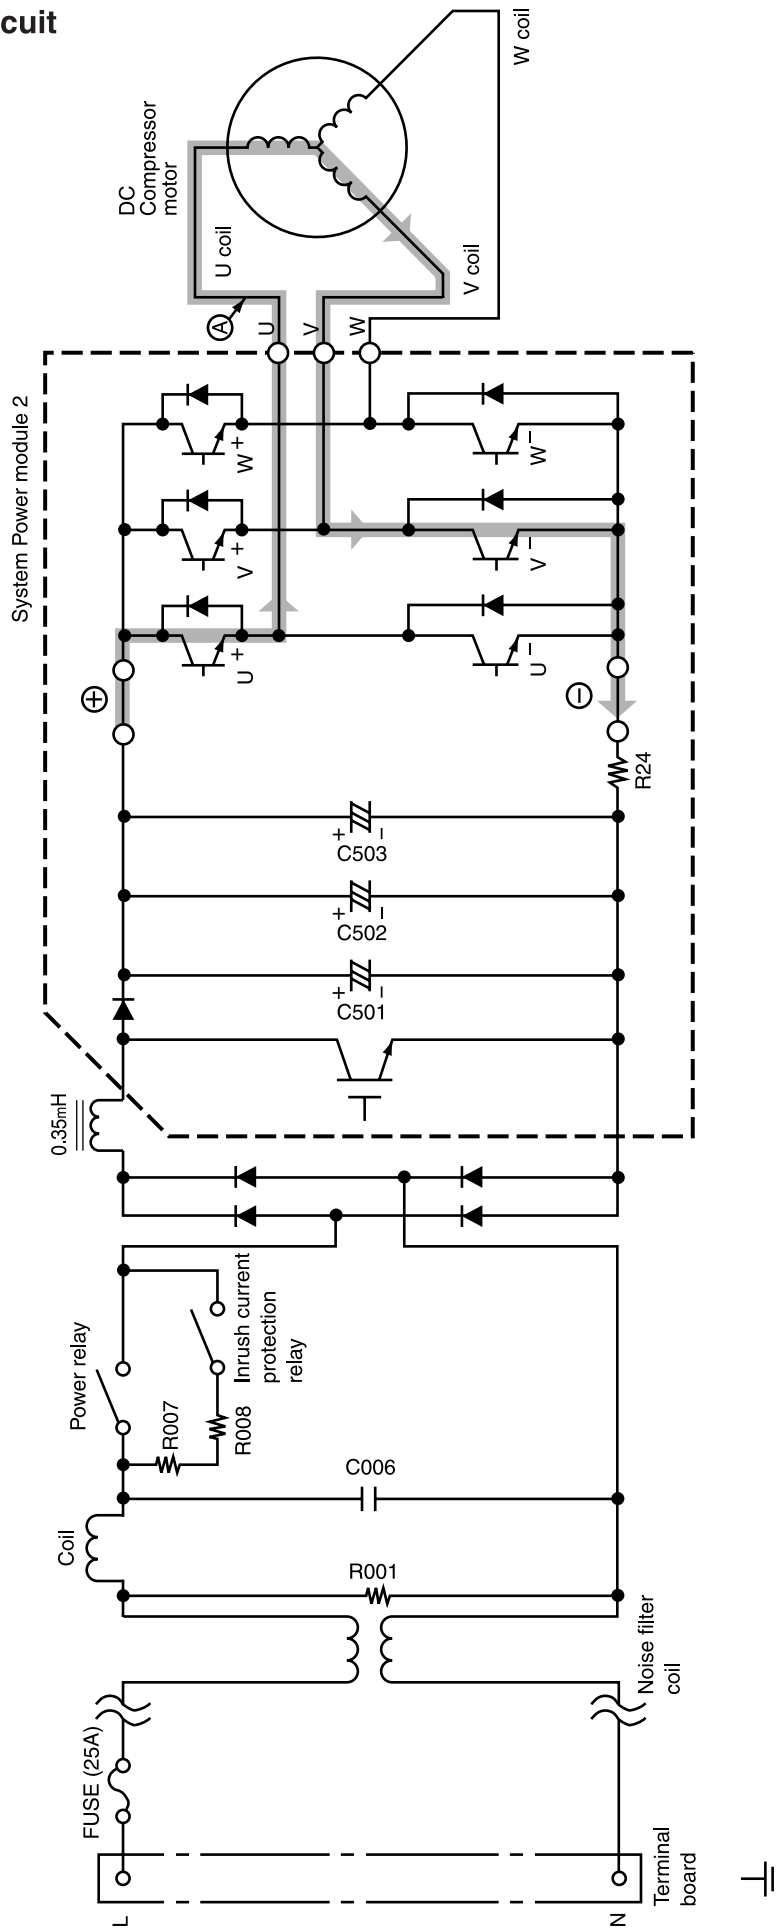
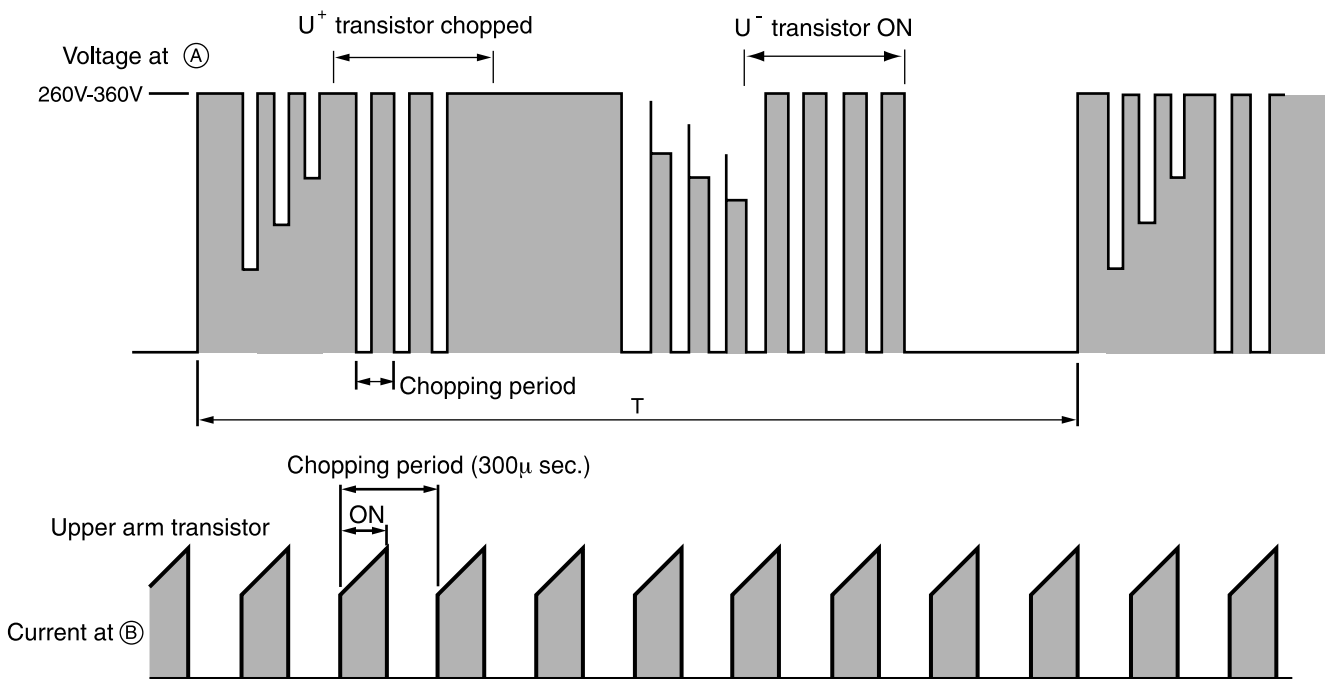

Fig. 3-1 Power module circuit (U⁺ is ON, V⁻ is ON)
Fig. 3-3 Voltage waveform at each point
- Fig. 3-1 shows the system power module and its peripheral circuit. The three transistors on the positive e side are called the upper arm, and the three transistors on the negative d side are called the lower arm.
[At point E: U⁺ is ON, V⁻ is ON (circuit in Fig. 3-1)
- Fig. 3-3 shows voltage waveform at each point shown in Figs. 3-1 and 3-4. First half of upper arm is chopper, second half is ON, and first half of lower arm is chopper, second half is ON.
- When power is supplied U⁺ → U⁻, because of that U⁺ is chopped, current flows as shown below; (B)
- (1) When U⁺ transistor is ON: U⁺ transistor → U coil → V coil → V⁻ transistor → DC current detection resistor → Point (B) (Fig. 3-1)
- Since current flows at point B only when U⁺ transistor is ON, the current waveform at point B becomes intermittent waveform as shown in Fig. 3-3. Since current at point B is approximately proportional to the input current of the air conditioner, input current is controlled by using DC current (I_d) detection resistor.